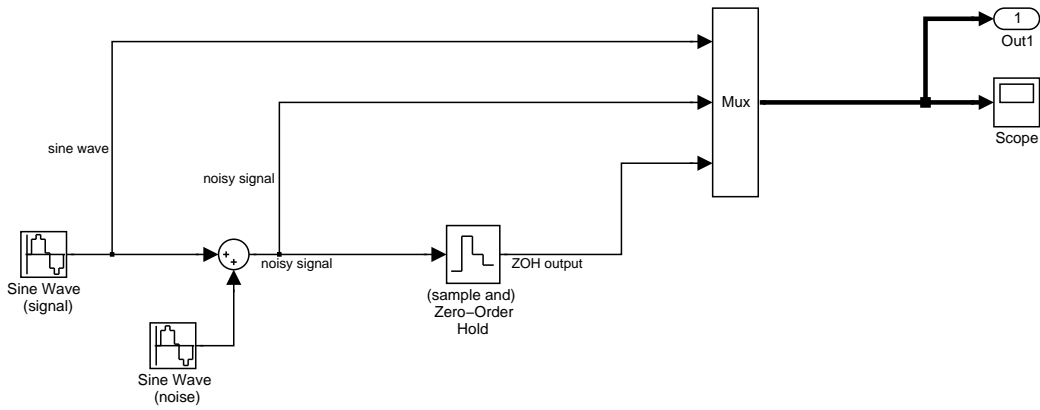

Figure 1: SIMULINK Model of Signal Reconstruction
- (c). Use the Matlab m-file “aliasing.m” and the SIMULINK model “noisy_signal.mdl,” shown in Figure 1, to compare the time responses of the clean signal, the signal contaminated with noise, and the reconstructed signal. Are the responses you see consistent with your analysis above? Explain.